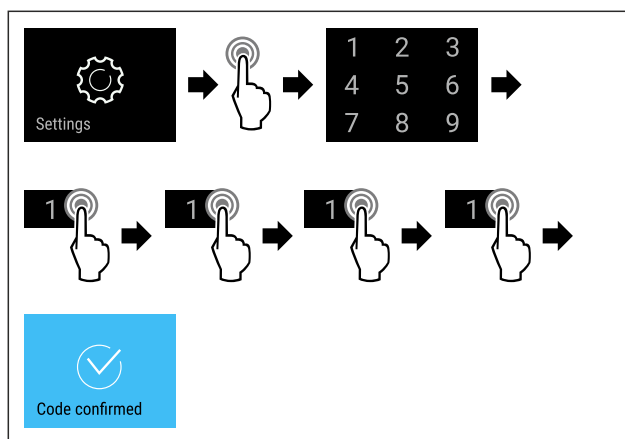

Fig. 100
- ▶ Complete the steps (see Fig. 100).